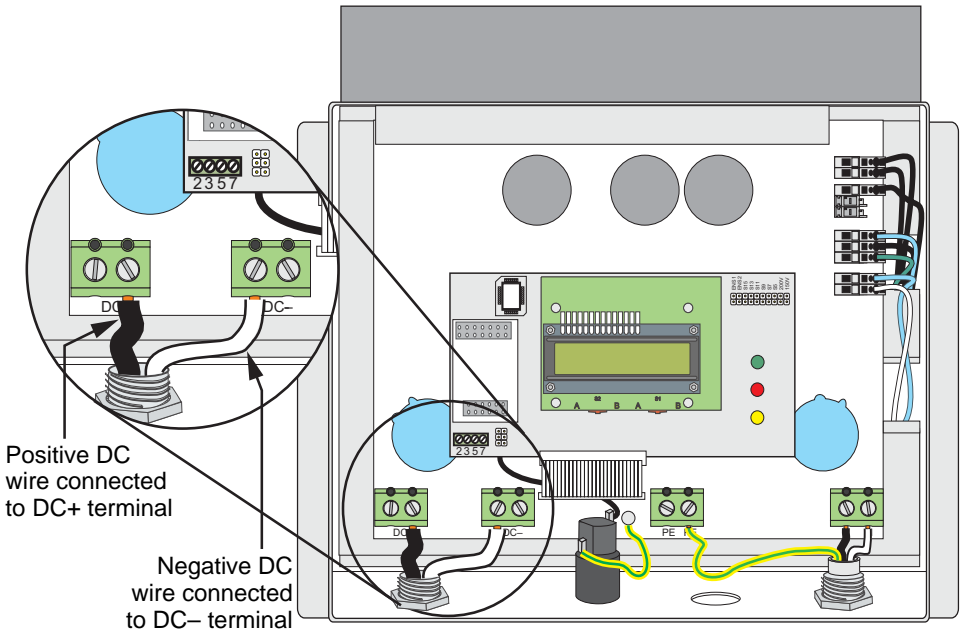

Figure 4-8 DC Connection Terminals
3. Install a ½-inch conduit fitting in the Sunny Boy's DC wiring knockout. The DC knockout is the one farthest to the left on the bottom of the Sunny Boy, as shown in Figure 4-2 (page 4-4) and Figure 4-8 (page 4-16). Fasten the fitting on the inside of the Sunny Boy with the nut supplied with the fitting.
Note: Refer to Figure 4-8 (page 4-16) for steps 5 through 7.